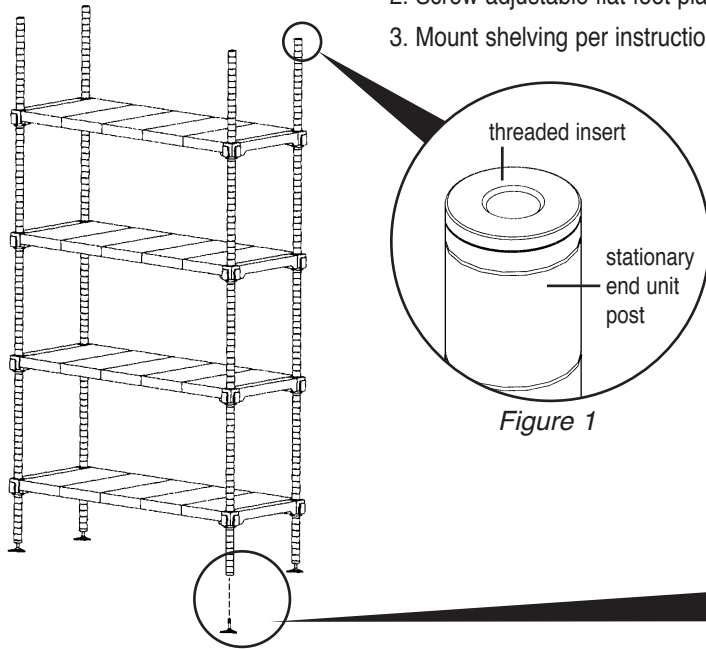

Figure 1
1. Locate stationary end unit posts. Both ends of the post will have a pressed-in threaded insert (see *Figure 1*). The mobile unit posts will have a threaded insert in the top. Four (4) posts are required for each unit.